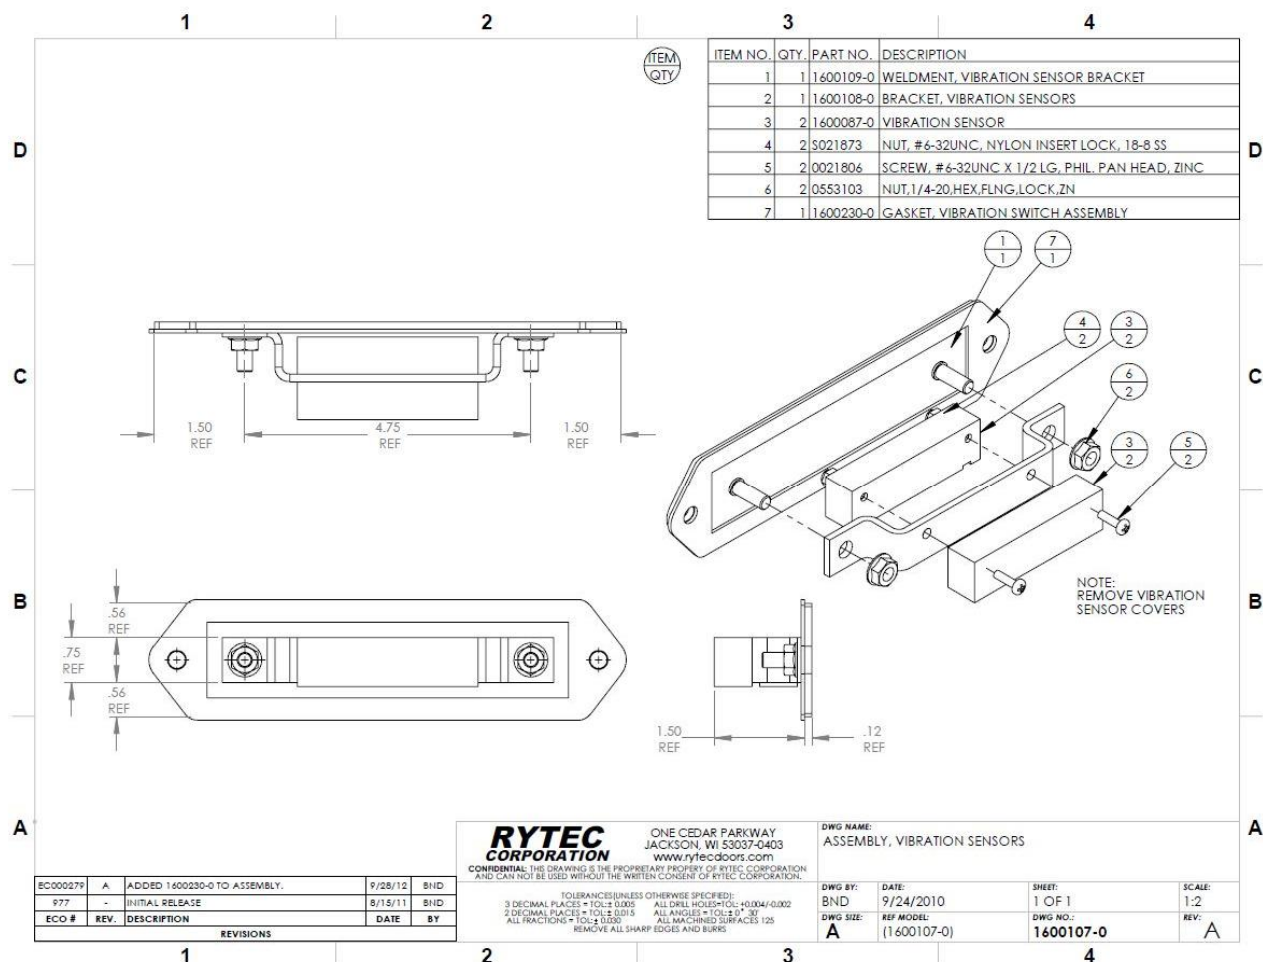

Figure 1
1. Remove the silver cover on the bottom bar to find the vibration sensors. (See figure 1)